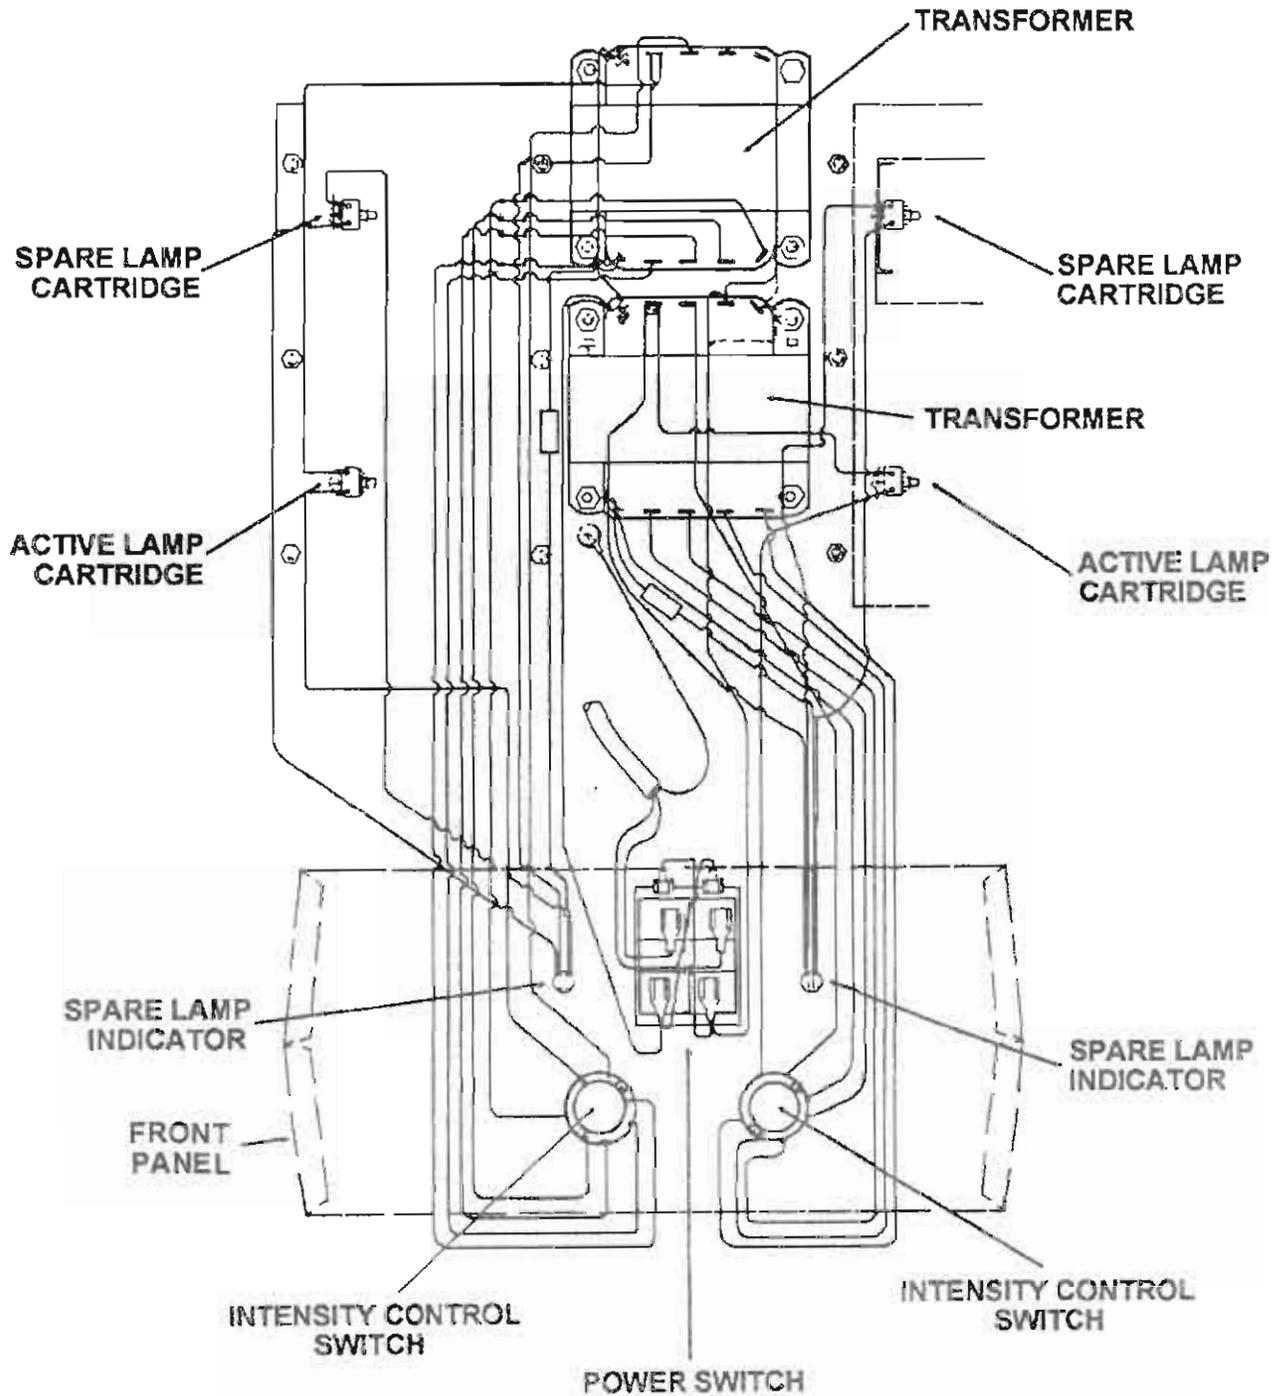

Figure 3-1. Wiring diagram.
b. An electrical wiring diagram for troubleshooting is provided in figure 3-1.